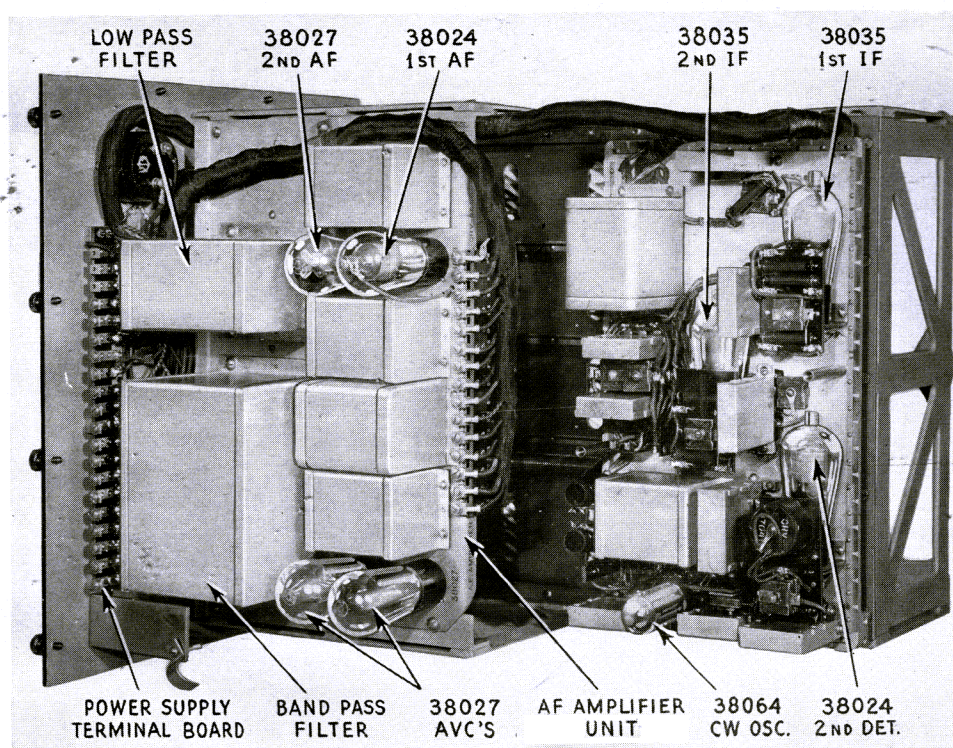

Figure 4—IF and AF Amplifier CRV-50023
IF-AF Amplifier—CRV-50023—Top View Chassis	Figure 4 9
- 5.1-2 *Intermediate and Audio Frequency Amplifier* (See Figures 4 and 5).